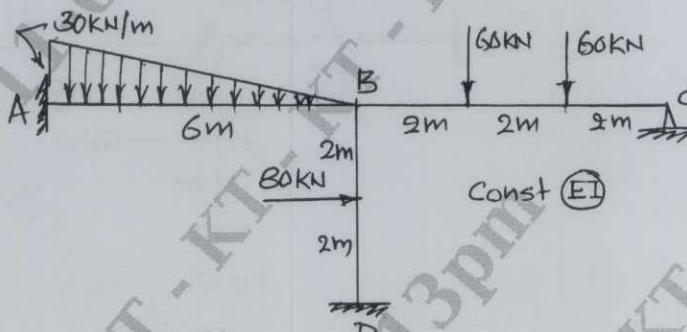

Fig.Q5
- 5 Analyze the frame shown in Fig.Q5 by using Kani's method. Draw BMD and also sketch the elastic curve.